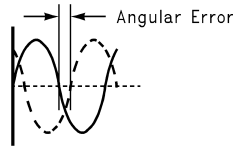

Figure 32. Angular Errors Between the Two Input Signals Will Reduce the Output Level or Cause Distortion
- Dev is the angular difference between the two signals having a 180° relative phase relationship to each other (see Figure 32) (5)